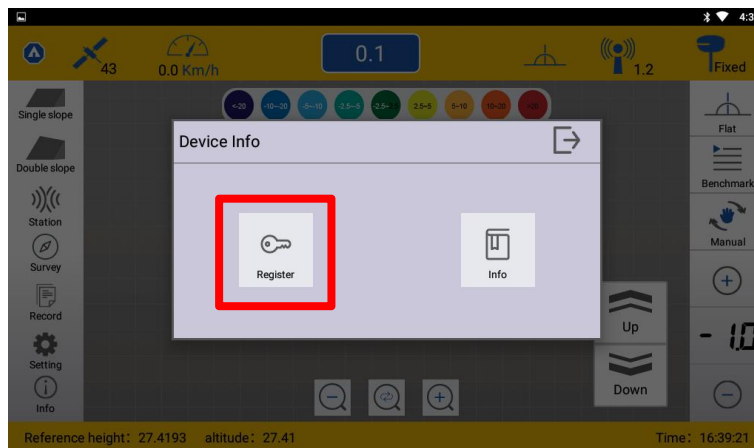

Figure 39
Step1. Click Info and select Register. (Figure 39)